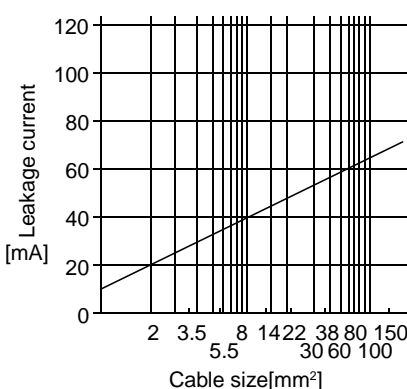

Fig. 11.1 Leakage current example (Ig1, Ig2) for CV cable run in metal conduit
- Ig1: Leakage current on the electric channel from the leakage current breaker to the input terminals of the servo amplifier (Found from Fig. 11.1.)
- Ig2: Leakage current on the electric channel from the output terminals of the servo amplifier to the servo motor (Found from Fig. 11.1.)